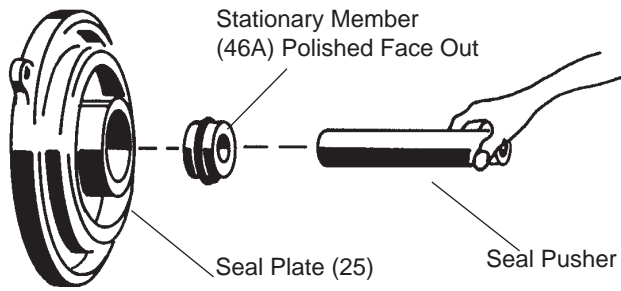

FIGURE 4
Seal - Clean and oil seal cavity in seal plate (25). Press stationary member (46a) firmly into seal plate (25), using a seal pusher, nothing but the seal pusher is to come in contact with seal face (See Figure 4). Make sure the stationary member is in straight.